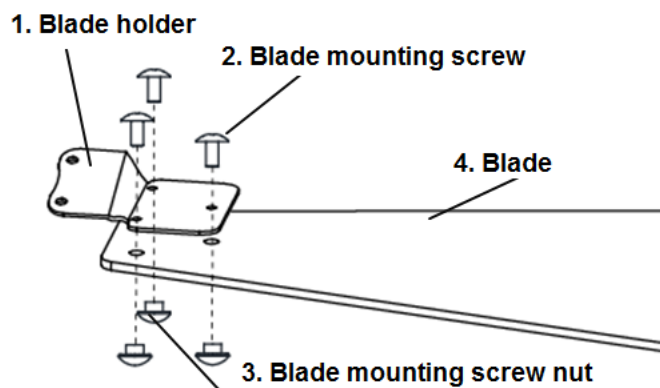

Fig. 5
1. Assemble the blades & holders using the screw set (2 and 3). (Fig. 5)